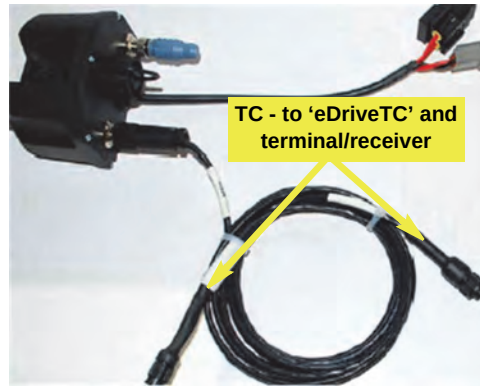

Figure 5e: CAN cables to eDriveTC and terminal/receiver
- f. **eDriveTC:** Connect the two other connectors on CAN cable **TC** to the 'eDrive TC' (as labelled) and the terminal/receiver (Figure 5e).